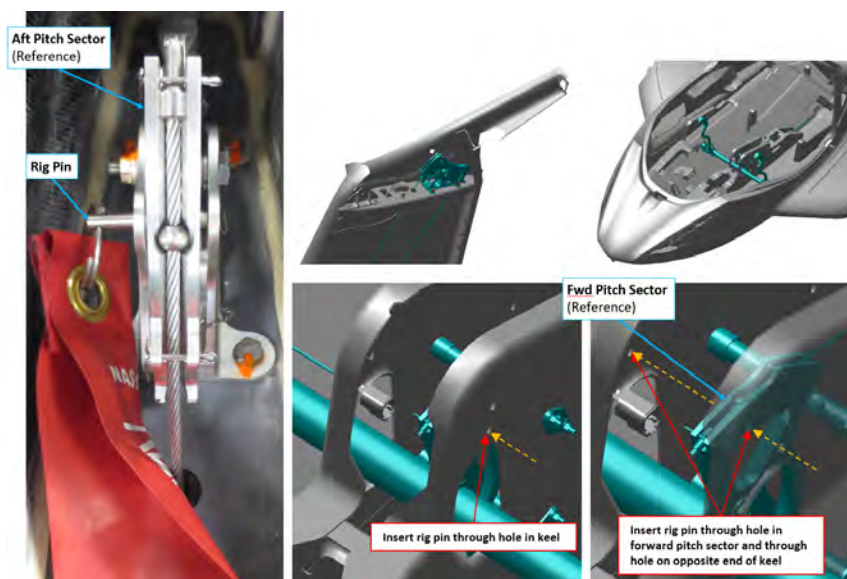

FIGURE 9-33
8. Install .250 in diameter rig pin through the center console and forward pitch sector. See Figure 9-33.
9. 10. Install .1875 in diameter rig pin through the aft pitch sector in the vertical tail. See Figure 9-33.
12. Remove rig pin in the aft pitch sector in vertical tail. See Figure 9-33.
20. Remove the FWD pitch sector rig pin. See Figure 9-33.